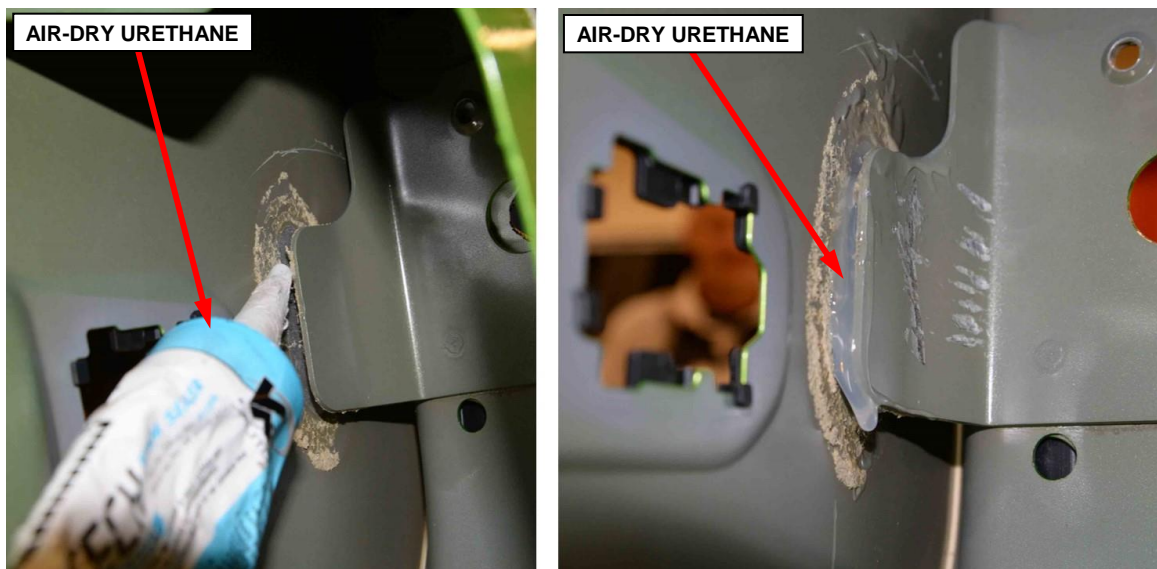

Figure 30 – Apply Air-Dry Urethane Between Latch Reinforcement Flange and Door Skin
51. Apply an air-dry urethane between the latch reinforcement flange and door skin in order to provide isolation and dampening (Figure 30).